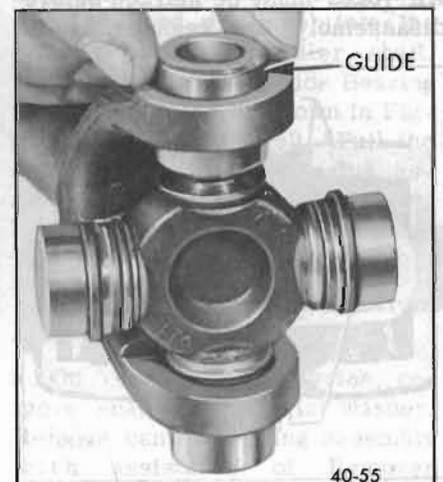

Figure 40-69—Installing Guide
5. Release pump and propeller shaft. Install Guide J-9522-8 through the bearing hole in the yoke and over the journal end of the spider. See Figure 40-69. This guide assures alignment of the spider while removing the opposite bearing.